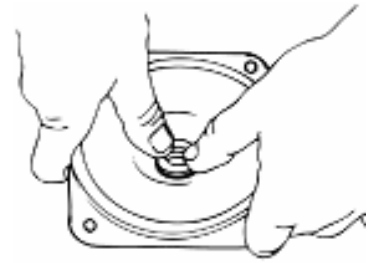

Figure 5b
8) With thumb pressure, press ceramic seal firmly into seal cavity. Polished face of ceramic seat is up. If seal does not seat properly, remove it and clean cavity again. Seal should now seat properly (Fig. 5b).